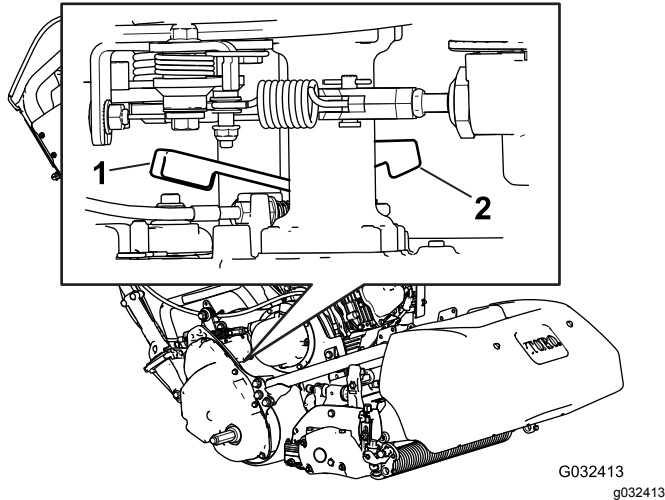

Figure 30
1. On the right rear corner of the machine, locate the traction engage/disengage lever next to the drive housing drum (Figure 30).